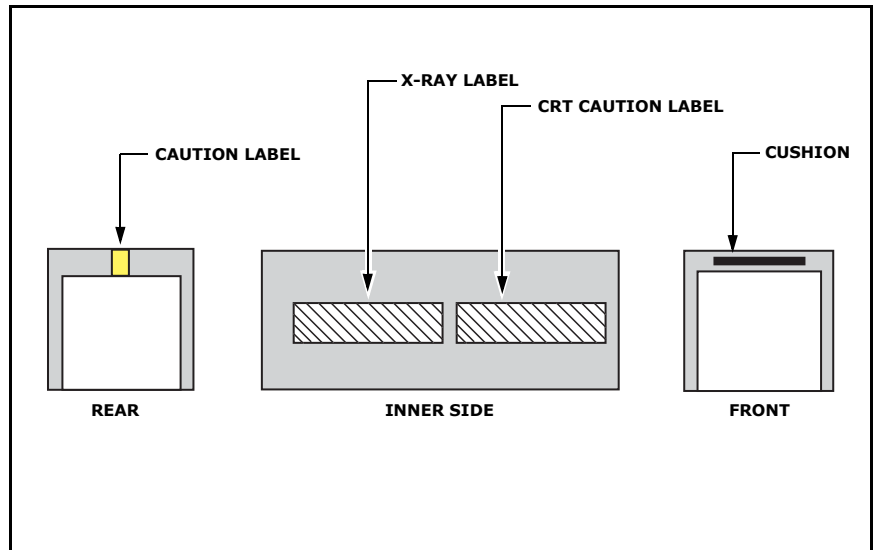

Figure 2
2. Confirm that the following items are properly affixed to the cabinet assembly. (See Figure 2.)